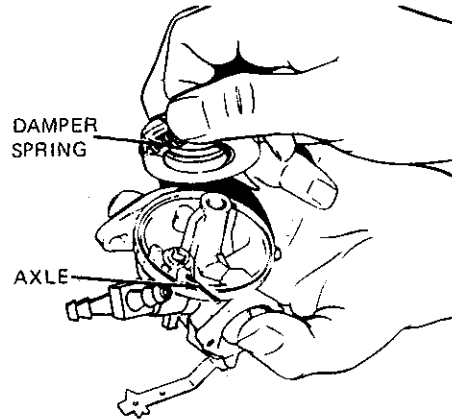
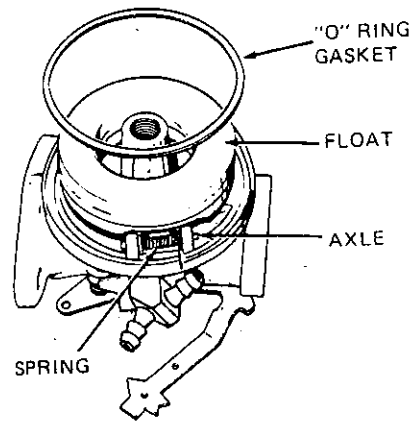

Figure 15
Figure 16
- e. To assemble the float and spring, position carburetor as shown in Figure 15. Start the axle, hook the long end of the damper spring under the float tab, facing the choke end of the carburetor; put tension on the other end of the spring either with thumb or index finger. Push the axle through the hinge and spring, release the end of the spring and it will anchor on the carburetor casting as shown in Figure 16.
- f. The gasket fits over the float spring as shown in Figure 16 to avoid cutting by the spring during bowl assembly.
- (8) INLET NEEDLE AND SEAT. Several different types of needles and seats have been used. Some use a resilient Viton seat with a hard needle, while others use a rigid hard seat with a resilient Viton tip on the needle. Correct service procedure is important and different depending upon type of needle and seat.